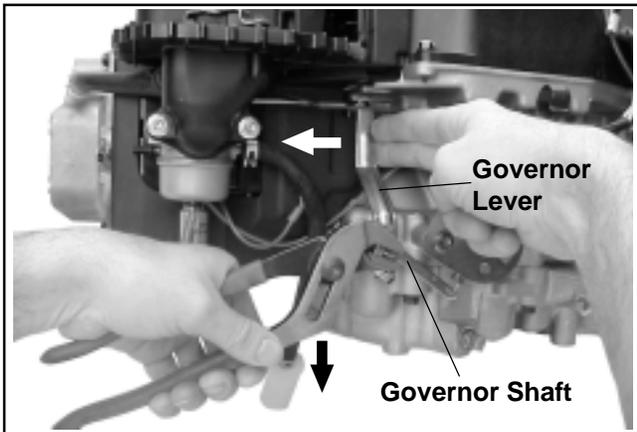

Figure 11-66. Adjusting the Governor.
- b. Grasp the cross shaft with a pliers and turn the shaft **counterclockwise** as far as it will go, then tighten the hex. nut securely. See Figure 11-66.